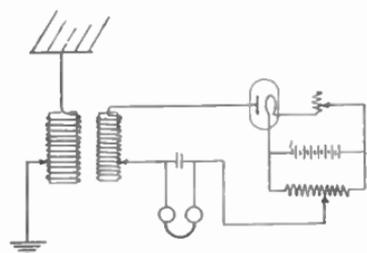

Fig. 2. Wiring diagram when valve is used as wireless detector
The body of the sled is built of wood, and readers who consider themselves capable of doing so, may cover the top and sides with galvanized sheet iron or sheet tin, according to our instructions. Begin by cutting the floor to dimensions given in Fig. 2. The total length of this is 10 ft.
6 in., and the width at the widest point is 28 in. Except where otherwise specified, stock should be $\frac{3}{8}$ in. thick. The floor is built up of four 8 in. boards, 10 ft. 6 in. long. Place two of these next to each other so that the ends are flush and then nail strips across the bottom so that the curved line BC (Fig. 2) may be drawn. This is done as may be suggested by the illustration. Using an outer edge of the two boards as the line BD , lay off on it the dimensions given. That is, from the point B , measure 28 in. and erect a perpendicular. Then measure 26 in., and draw another perpendicular line, and so on. On these perpendiculars lay off the distances given showing one-half the width of the body at the various points. The curved line BE can now be made by driving a nail at F , which is on the first perpendicular line from the bow, $11\frac{1}{4}$ in. (one half the width) from the "working edge" (BD) of the two planks. By placing a slender stick on the outside of the nail and bringing the ends down so that the stick bends and its edge crosses the points B and E , the curve BFE can be drawn by running a pencil or crayon along the inside edge of the stick. In a like manner, by driving brads at G
When used as a wireless detector, the valve is connected as in Fig. 2. The filament is of tungsten or carbon, while the plate or cylinder is of copper gauze or sheet. Usually a grounded copper gauze cover is put over the bulb to carry away any static charges which may collect on the glass, and decrease the sensitivity of the detector. The negative terminal of the filament is connected to the potentiometer and phones. It should be noted that the small fixed condenser in shunt with the phones is used only to increase the signal strength by discharging into the phones, as is the case with a crystal detector, and can be omitted without greatly effecting the results.
In 1908 the diagram in Fig 2 was used, for it was found that a current through the phones and tuner to the grid, greatly improved the original results, but it changed the action to that of the Audion detector, patented in 1906. If, in this circuit, a galvanometer is inserted in place of the phones, it shows a continual deflection which is decreased by the incoming signals, as is the case with the Audion detector.
deck follows this general scheme and Fig. 1 gives a good idea of the proportions. From this drawing the reader will note that the deck constitutes the No. 7 plank while the superstructure is composed of planks Nos. 8 and 9. Full dimensions and details of the deck and superstructure are given in Fig. 2.